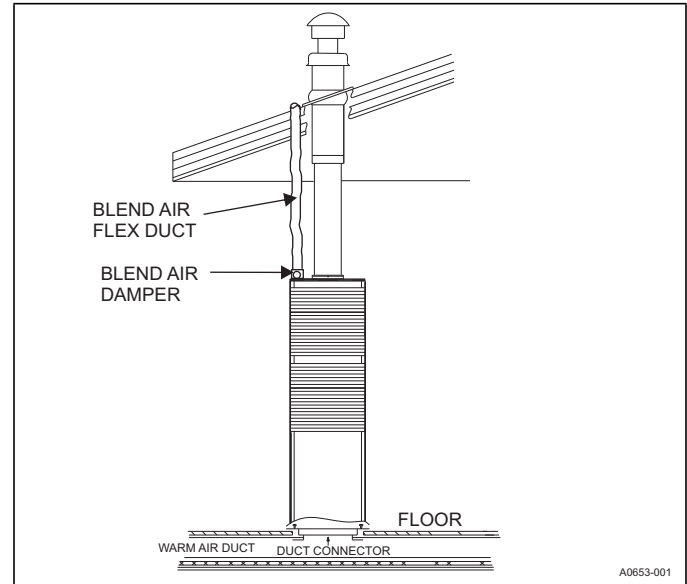

Figure 13: Floor installation
- Furnace filter rack:** A return filter rack with two standard throwaway type filters are supplied on all models. The return filter rack is located on the inside of the louvered door. This type of filter rack is designed for two standard air filters only. Pleated media or washable filters cannot be used in this filter rack because they cause too much pressure drop causing a reduction in airflow. Refer to Figure 13.